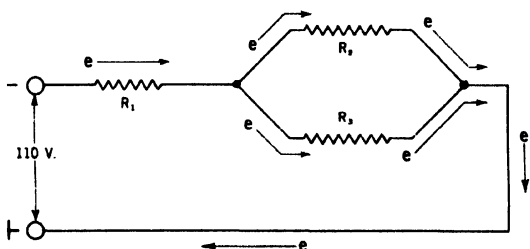

Fig. 29-13. The series-parallel circuit.
**Combined Series and Parallel Circuits.** In addition to having circuits where the resistors are in series or parallel, we may have circuits having some devices connected in series and others in parallel. Such a circuit appears in Figure 29-13. Here  $R_1$  is in series with the combination of  $R_2$  and  $R_3$ . But  $R_2$  and  $R_3$  are connected parallel with each other. To find the total resistance, first find the total resistance of  $R_2$  and  $R_3$  by use of the formula